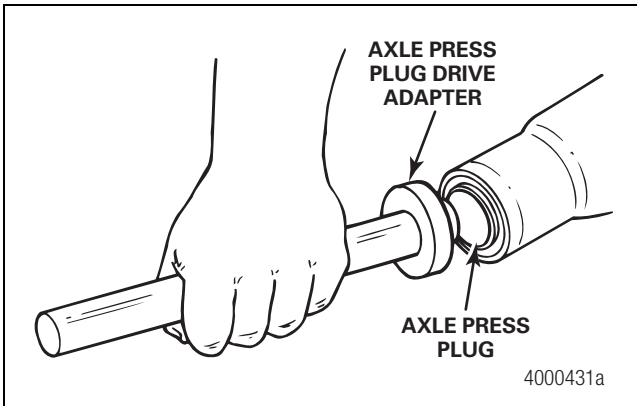

Figure 2.24
18. Insert the axle press plug drive adapter into the axle press plug. Figure 2.24.